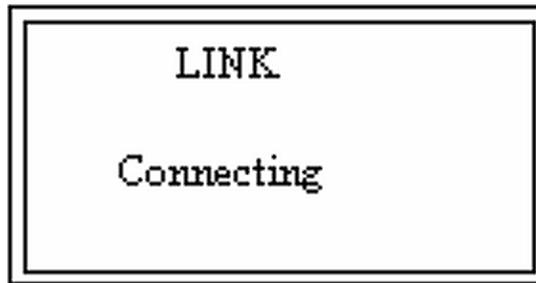

Figure 2-16 Link Screen
7. Press **Enter** and the *Link* screen appears (Figure 2-16) for one to three seconds and then the *Home* screen reappears.